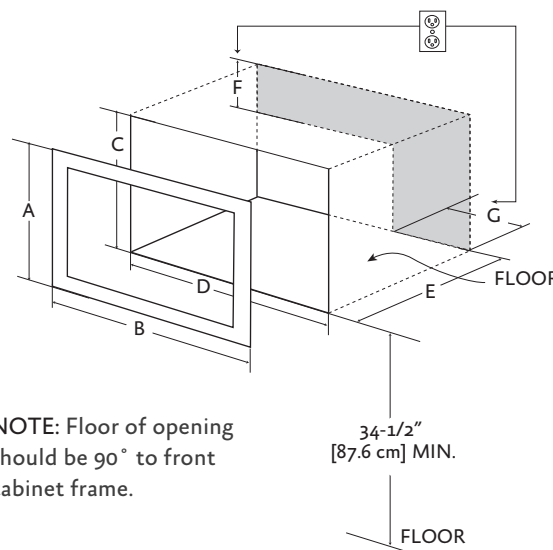

Figure 1
Provide an opening in the wall or cabinet as indicated in Figure 1. The depth should be a minimum of 20-1/8" [51.1 cm]. If the Depth (E) dimension is greater than 21" [53.3 cm], the outlet location may be in any area on the rear wall. The floor of the opening should be constructed of plywood strong enough to support the weight of the oven - approximately 100 lbs. [45kg], and should be level for proper operation of the oven.
Outlet should NOT be in the shaded area as indicated on Figure 1.